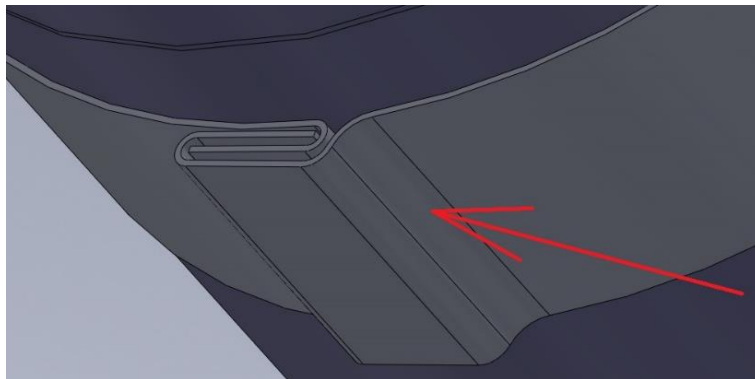

Fig. 7
- Shape the joint including the radius – see Fig. 7.